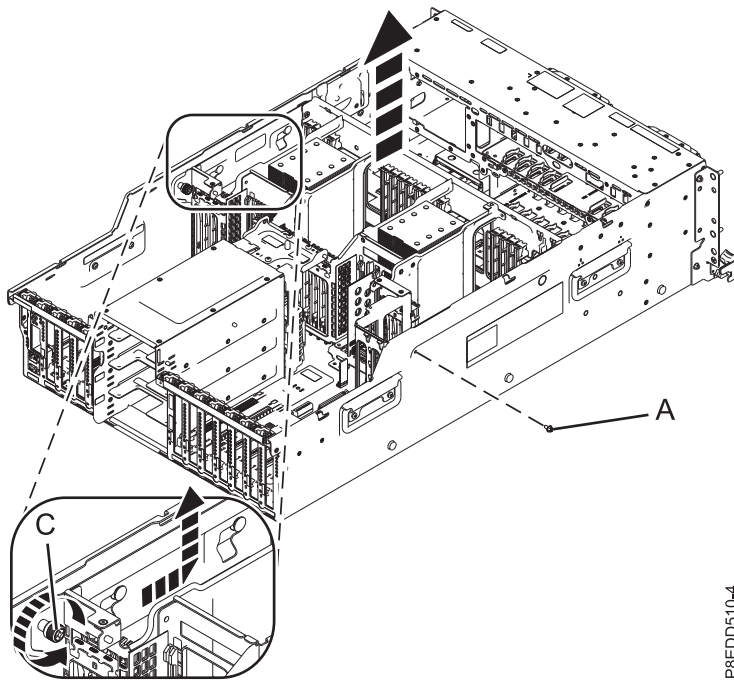

Figure 21. Removing the system backplane
- c. Using a Phillips screwdriver, unscrew and remove screw **(A)**. See Figure 21 on page 21.
- d. Unscrew the captive thumbscrew **(C)** until fully loose. See Figure 21 on page 21.
- e. Slide the system backplane in the direction that is shown in Figure 21 on page 21, then lift it up to remove it. Place the system backplane on an ESD surface.